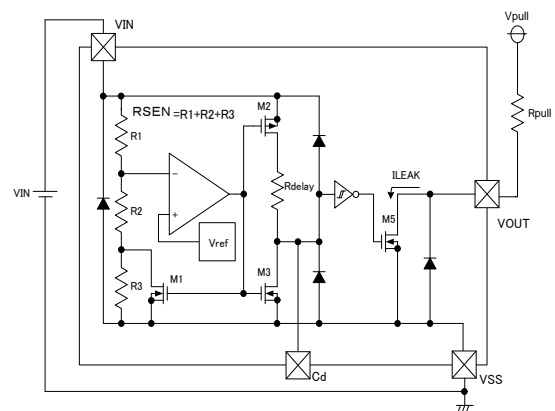

Figure 4: Circuit example of XC6109N Series
6. When N-channel open drain output is used, output voltages  $V_{OUT}$  at voltage detection and release are determined by a pull-up resistor tied to the output pin. A resistance value of the pull-up resistor can be selected with referring to the followings. (Refer to Figure 4)